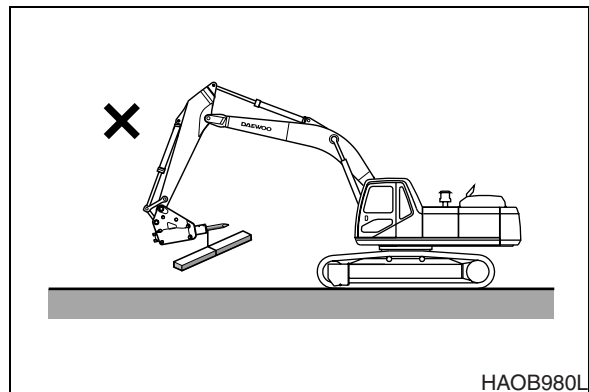

Figure 75
- Do not any lifting or towing with a breaker. See Figure 75.